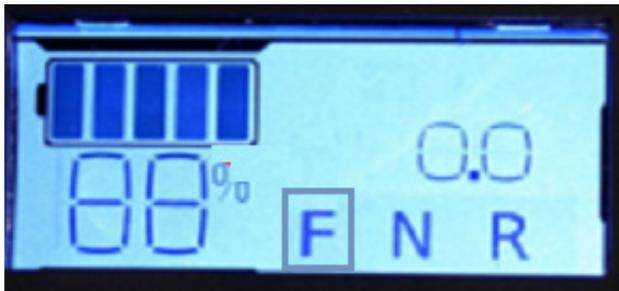

FIGURE 3
9. The “F” on the screen now has a box around it as seen in Figure 3.